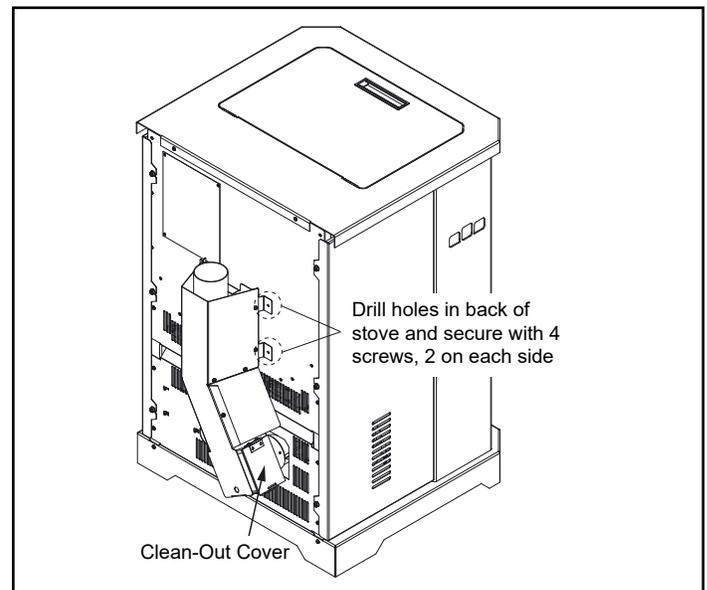

Figure 2
3. Drill four (4) holes with #26 Drill Bit (C2) into the back of the appliance using the outer shield as a pattern (make sure the assembly is vertical) (Figure 2).
7. To clean the Top Vent Adapter Assembly (C1) open the clean-out cover (Figure 2).